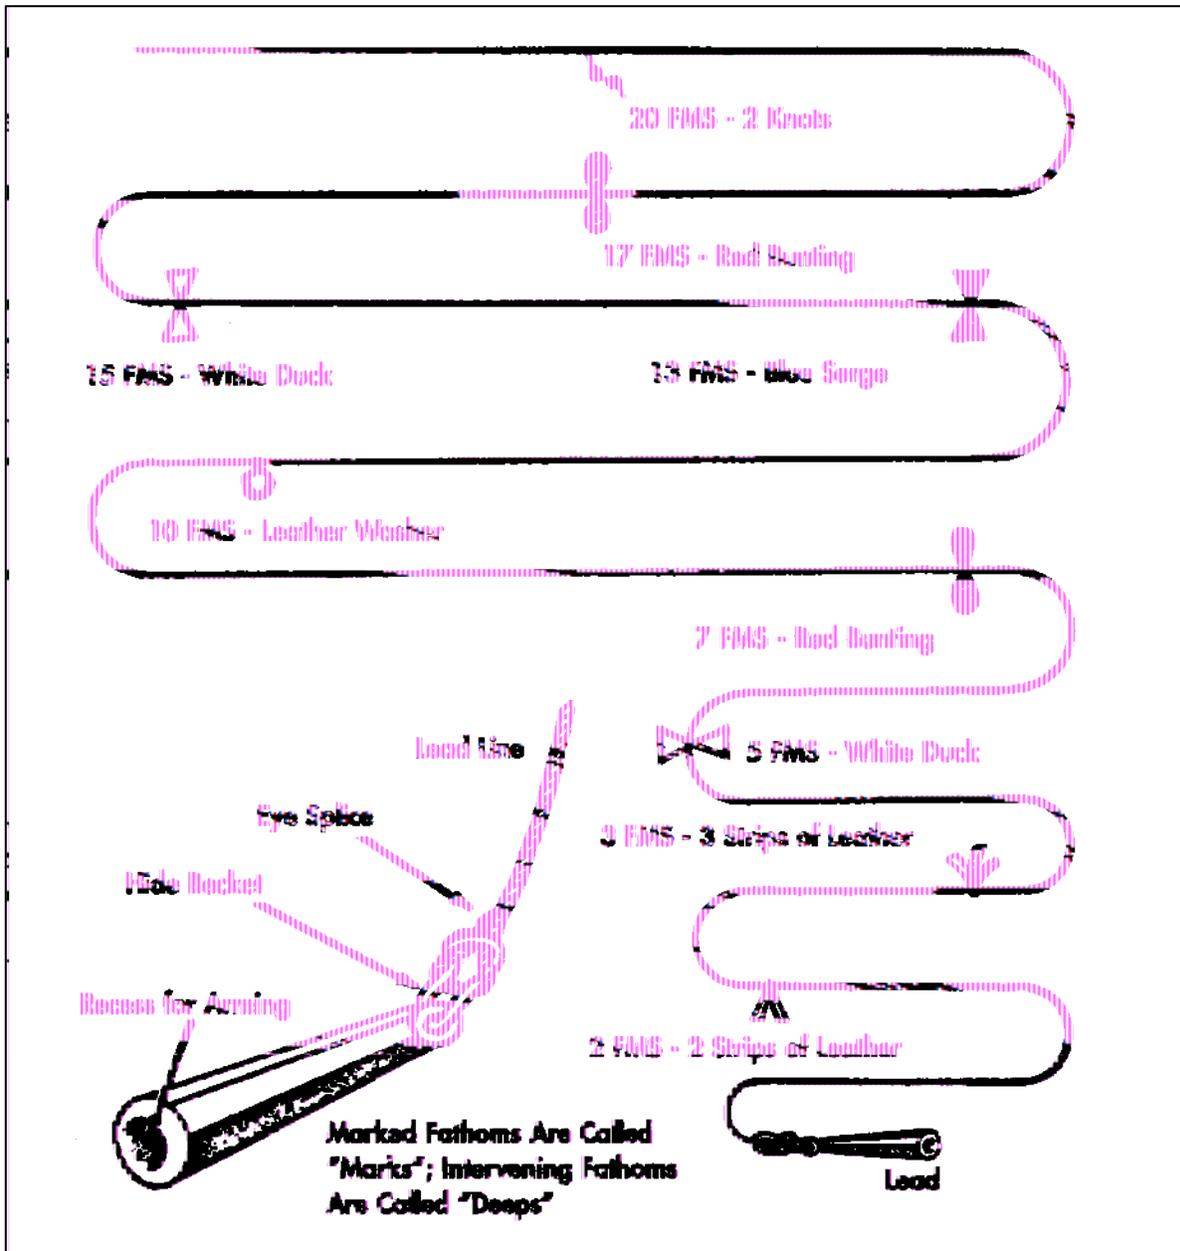

Figure 5.34-1 - Hand Lead and Line
- (1) The lead is a bar weighing approximately 5 -7 kgs.
- (2) The line is 50 m of special line.
- (3) The line is secured to the lead by a rawhide becket.
- (4) Markings as shown in Fig 5.34-1.